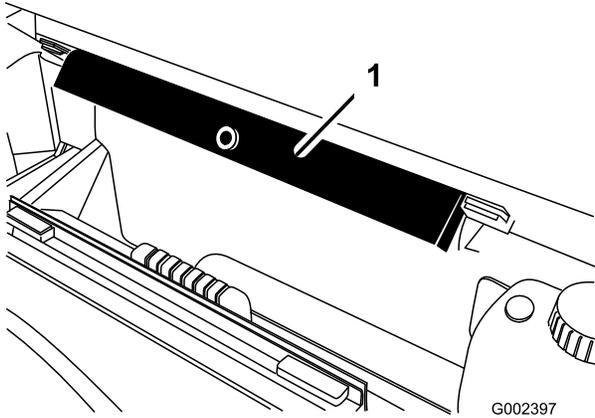

Figure 40
2. Remove the bed support from the storage brackets on back of the ROPS panel (Figure 40).